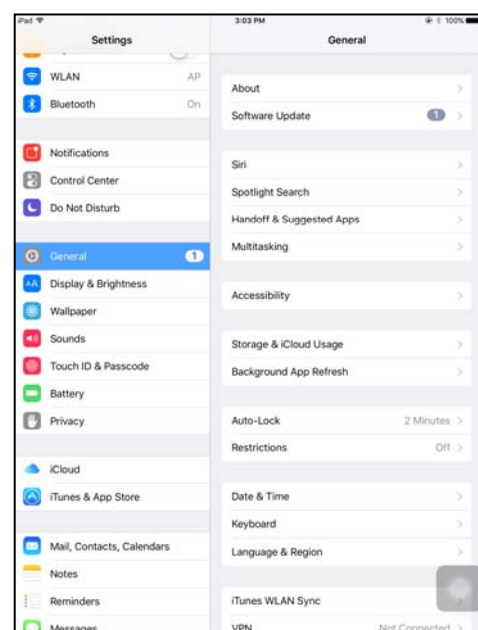

Figure 34
1.2 Find out “WLAN” in “Settings” interface and enter into, as shown in Figure 34.